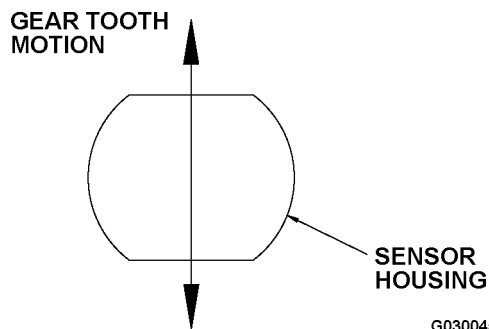

FIGURE 50-99. SPEED SENSOR ADJUSTMENT
- Continue turning out the sensor until the flats of the sensor housing are perpendicular to the gear tooth motion (See Figure 50-99).